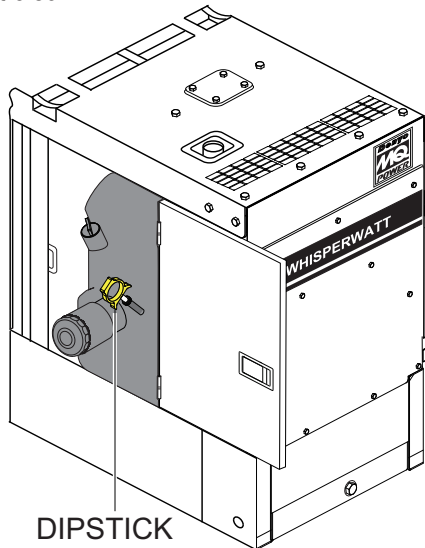

Figure 24. Engine Oil Dipstick
2. Remove the **dipstick** from its holder (Figure 24) and wipe it clean.